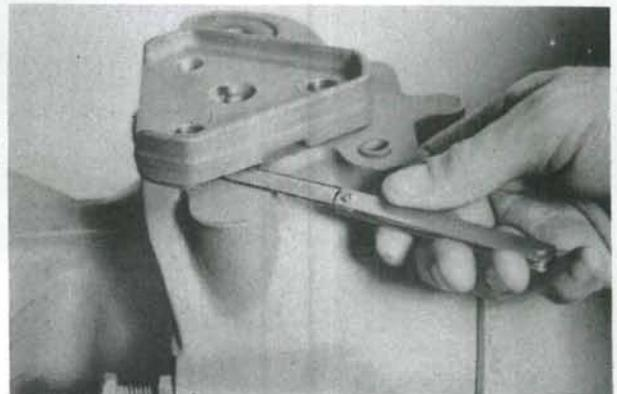

**Fig. 32—Exploded view of Carraro Type 709/19 front drive axle used on late Models 1394, 1494 and 1594.**
To remove swivel housing (1—Fig. 32), disconnect steering cylinder from left-hand steering arm. Disconnect tie rod end from swivel housing arm. Remove upper and lower swivel pins (9) and shims (10). Withdraw swivel housing from axle housing.
**38. SWIVEL BEARING PRELOAD.** Shims (10—Fig. 32) are used between swivel pin (9) and housing (1) to adjust bearing preload. Correct preload setting is 0.2 mm (0.008 inch). To adjust, install bottom pin without shims and tighten bolts to 83 N·m (60 ft.-lbs.) torque. Support the weight of the axle with a jack under bottom pin. Install top pin without shims or bolts making sure bearing cone is fully seated in cup. Measure the gap between flange of swivel pin and swivel housing (Fig. 33). Select shim pack which is 0.1-0.2 mm (0.004-0.008 inch) less than the gap measurement. Divide shim pack equally and install half of the shims